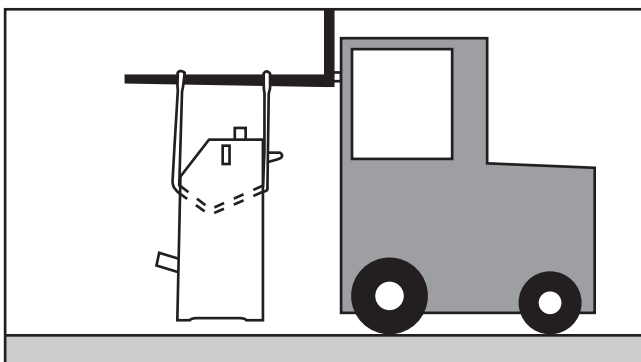
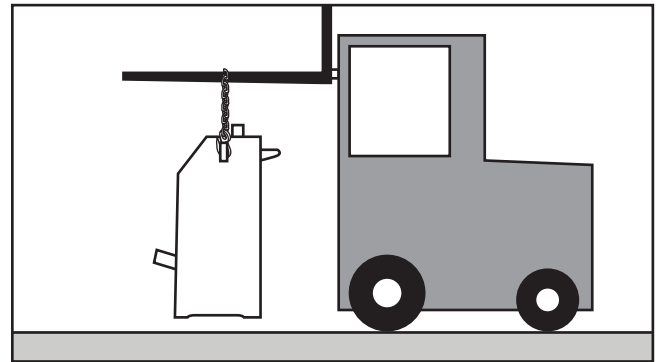

Figure 4. Lifting shear with lifting straps.
Figure 5. Lifting shear with chains and safety hooks.
3. Wrap the lifting straps around the shear, as illustrated in **Figure 4**, or attach safety hooks and chains to the side lifting brackets, as illustrated in **Figure 5**.